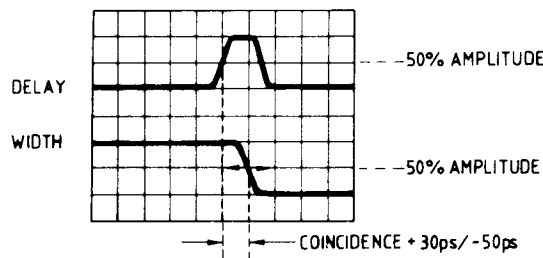

Figure 5-11
17. Adjust trailing edge of width pulse via A128 R239 to within limits of $+300$ ps or -50 ps (see Figure 5-11) of coincidence with leading edge of delay pulse.